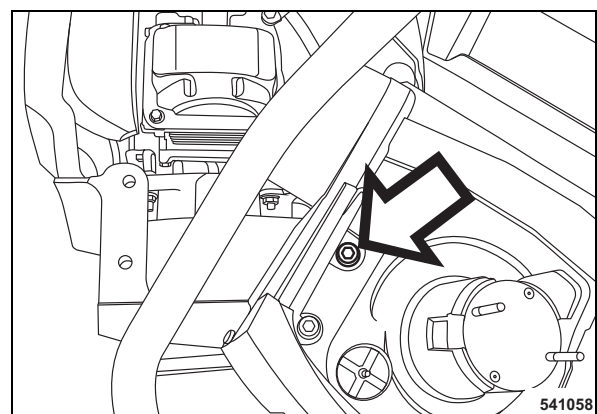

Fig. 48
- Lift up the steering bow with the tank and fasten it to the housing with the screw (Fig. 48). Tighten the screw hand-tight (max. tightening force 50 Nm (37 ft.lbs)).